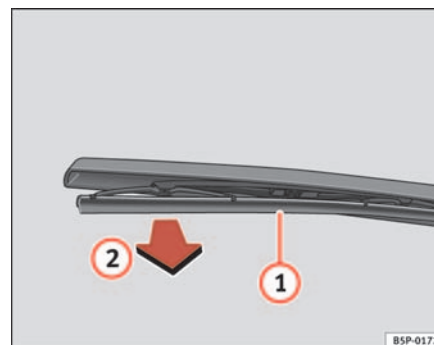

Fig. 160 Changing the rear window wiper blade
- Lift the wiper arm away from the glass ⇒ fig. 160
- Unclip the wiper blade ① and pull ②. ⇒ fig. 160